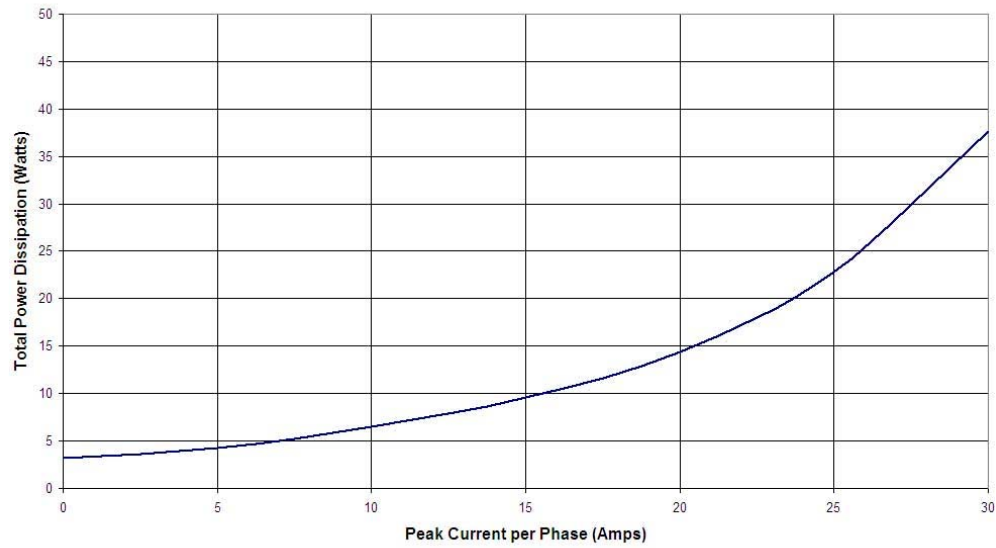
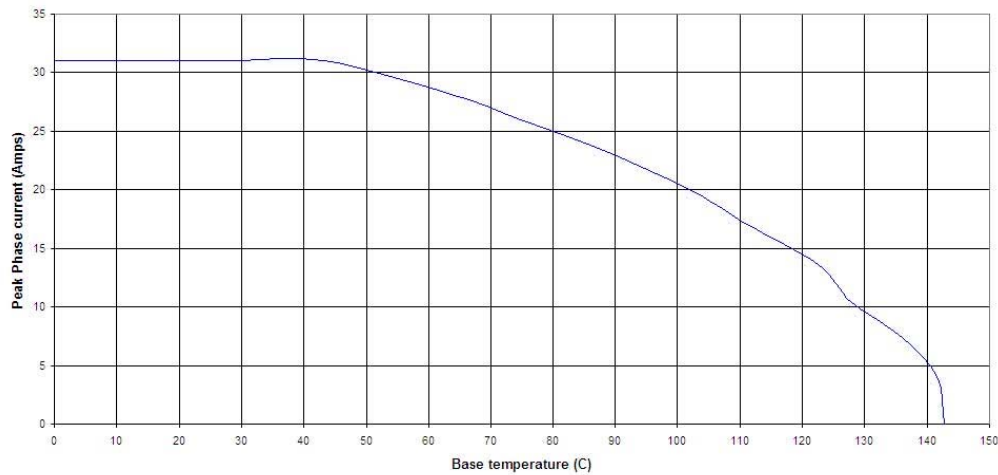

Figure 13: DPFlex power dissipation 30A variant
Figure 14: DPFlex safe operating area 30A variant
(1) Refer to the power dissipation curve shown in Figure 13 to properly heat-sink the drive.
DPFlex generates heat as its consumption of power increases. Use the graphs in Figure 13 and Figure 14 below to determine safe operating conditions.